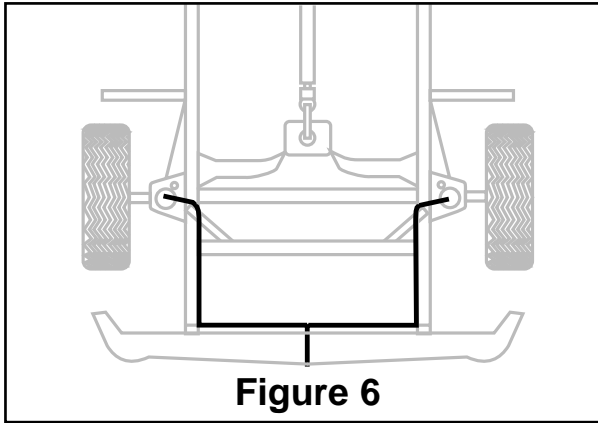

Figure 6
- J. Push the remaining air line over the last fitting on tee (Figure 4) and route along frame to desired inflation valve location (Figure 6). Attach with plastic straps or wire.